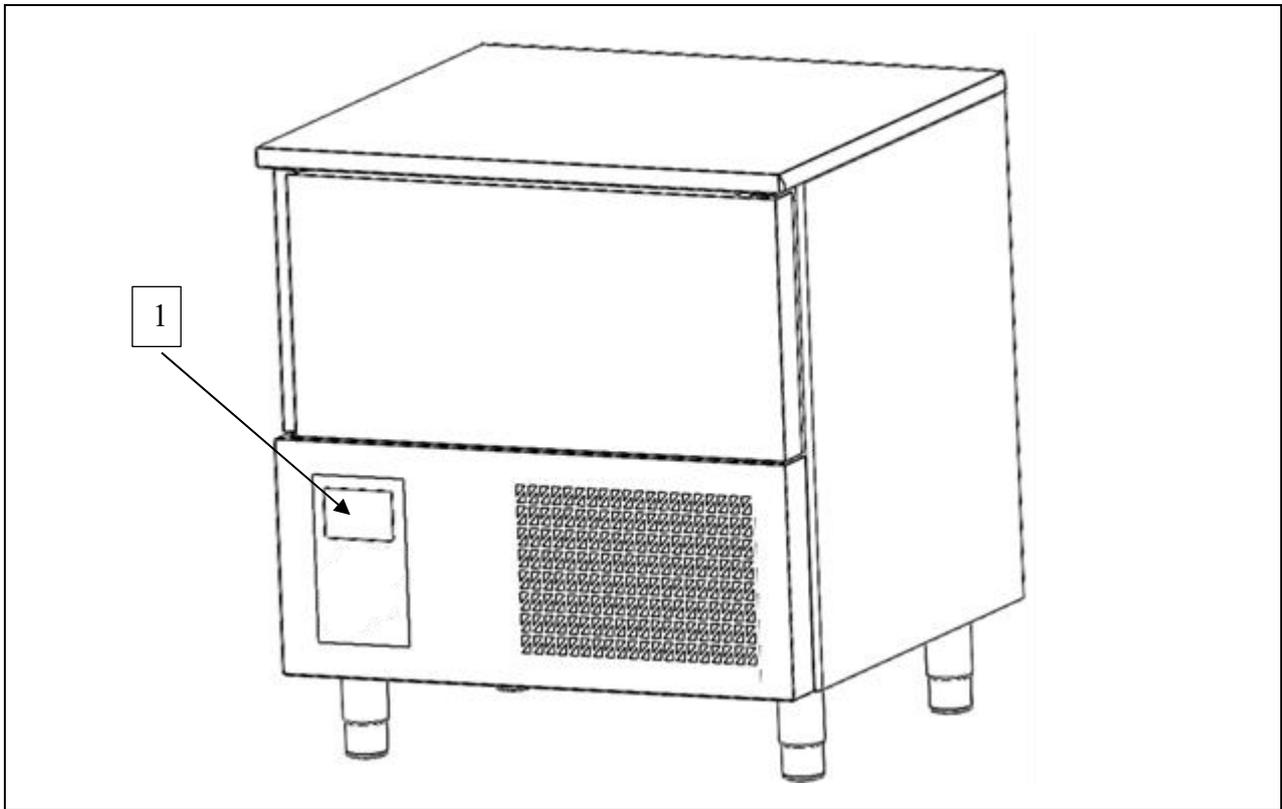

Fig. 3
The entire appliance is controlled by an electronic circuit board. The stop function is represented by the  button (ref. 1 fig. 3). Whatever condition the machine is in, holding down the  button for 3 seconds sets in standby the machine.